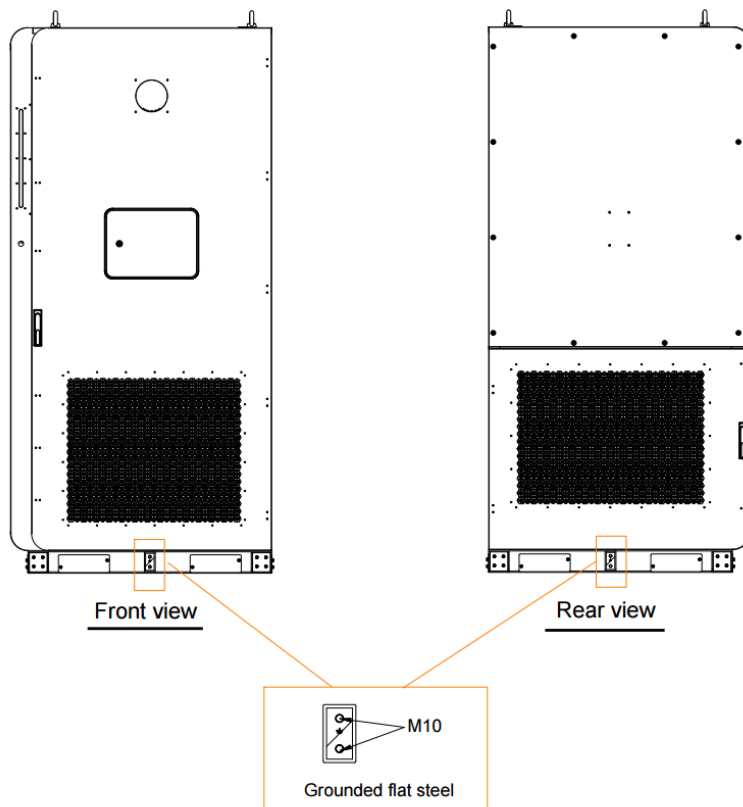

Figure 6-5 Diagram of external grounding
- Step 1.** Locate the grounding point of the cabinet, as shown in Figure 6-5.